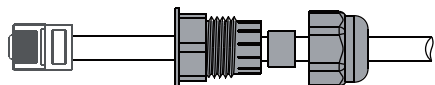

Figure 4.9-3 Remotely close the cable connection
Step 3-2 For Remote Shutdown. Run the cable through the steel plate , Then wire from pins 5 and 6. Table 4.9-1 describes the 6-pin port definition, Wiring is shown in Figure 4.9-3